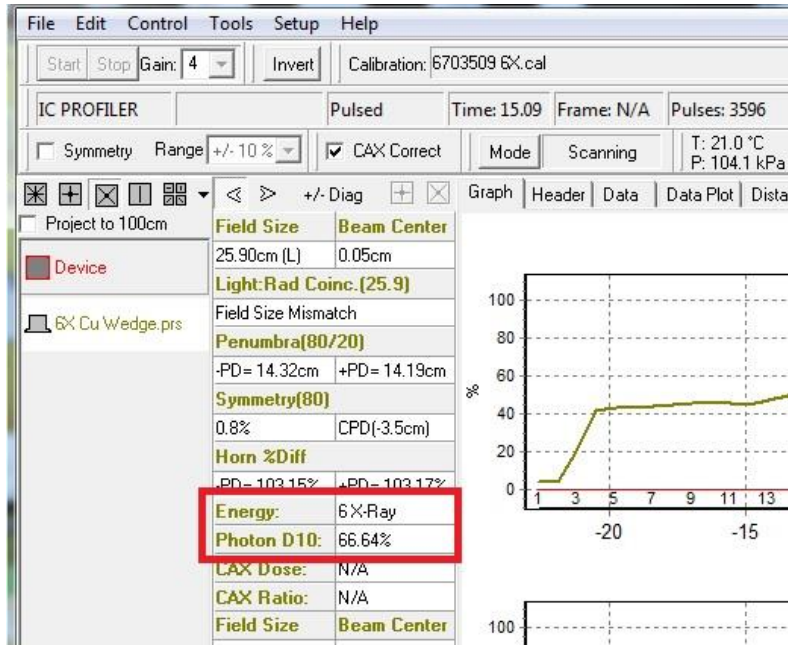

Figure 27: Photon D10 Result
- Record the **Photon D10** value (Figure 27) in the data table, and verify that all values meet specification.